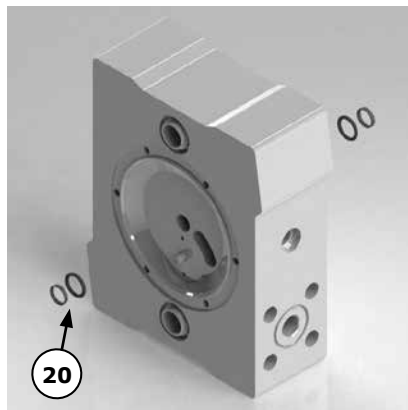

Figure 10
For VA-P15 up to VA-P50 (not for VA-P8 and VA-P10). Remove carefully the diaphragm shaft bearings and o-rings (20) from their grooves in the centre housing. (If disassembled they need to be replaced!) Take care not to damage the edges of the grooves (see Figure 10).